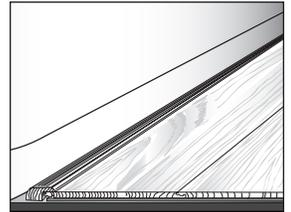

Figure 21
- Molding may be used along a straight tub or shower base (Fig. 21). The expansion zone should be filled with 100% silicone caulk and the molding seated in the caulk while it is still wet. The joint between the molding and the tub or shower base should also be caulked.